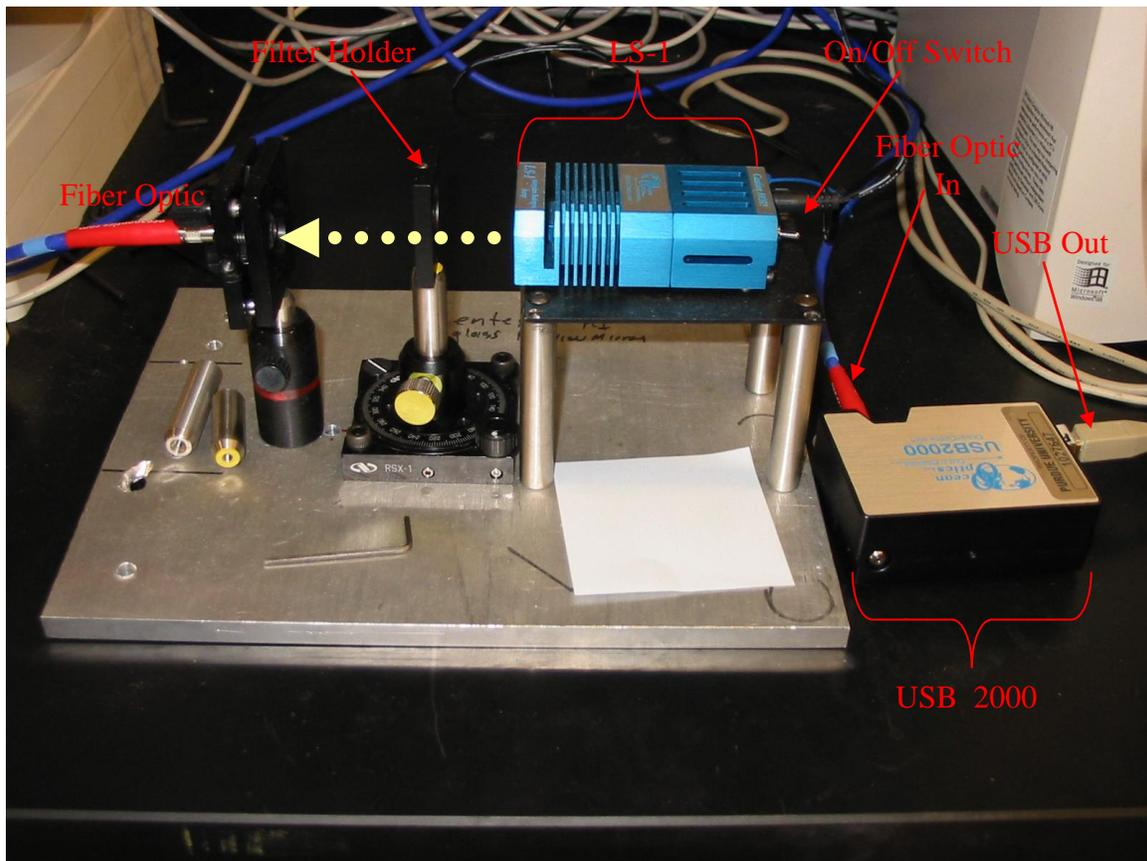

Figure 1
1. Ensure that filter scanning equipment is set up as in Figure 1.